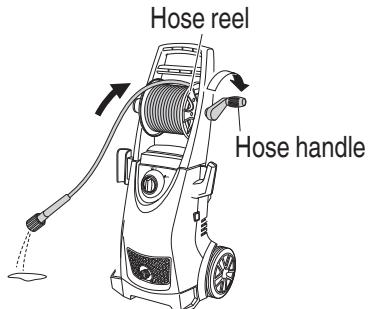

Fig. 24
4. Rewind the high-pressure hose (Fig. 24)